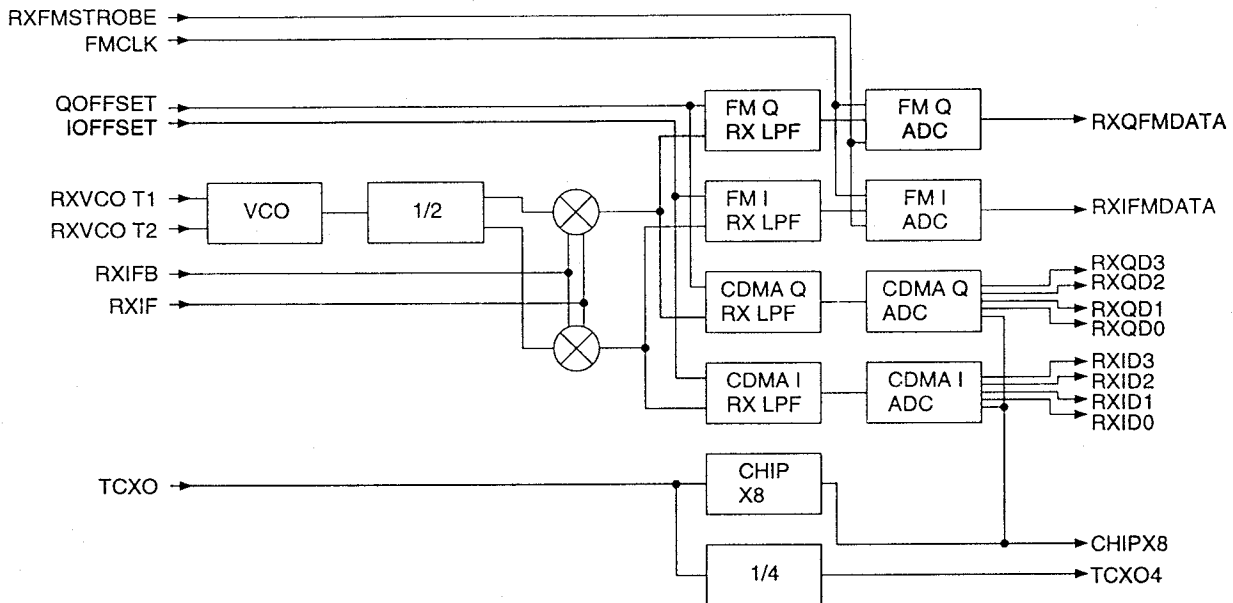

Fig. 7 Receive Section Block Diagram of CXA3003BR
This IC receive signal path (see Fig.7) is designed to accept a differential IF signal with CDMA spread spectrum modulation extending ± 630 kHz from the IF center frequency of 85.38 MHz. The incoming IF is reduced to I and Q baseband components by mixing with 85.38 MHz local oscillator (LO) signals in quadrature followed by low-pass filtering.